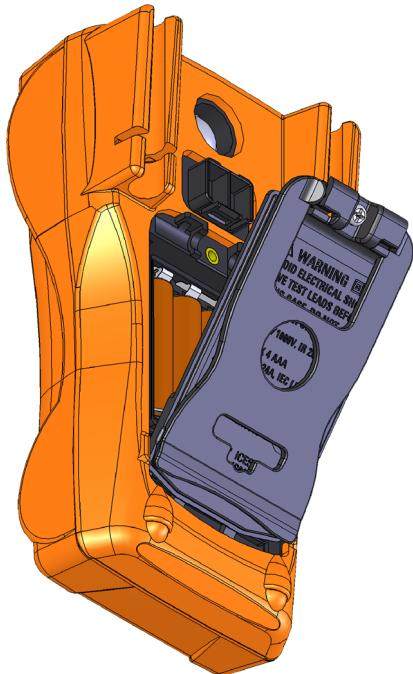

Figure 1-1 Installing the batteries
- 1 **Open the battery cover.** Loosen the screw with a suitable Phillips screwdriver and remove the battery cover as shown in Figure 1-1.